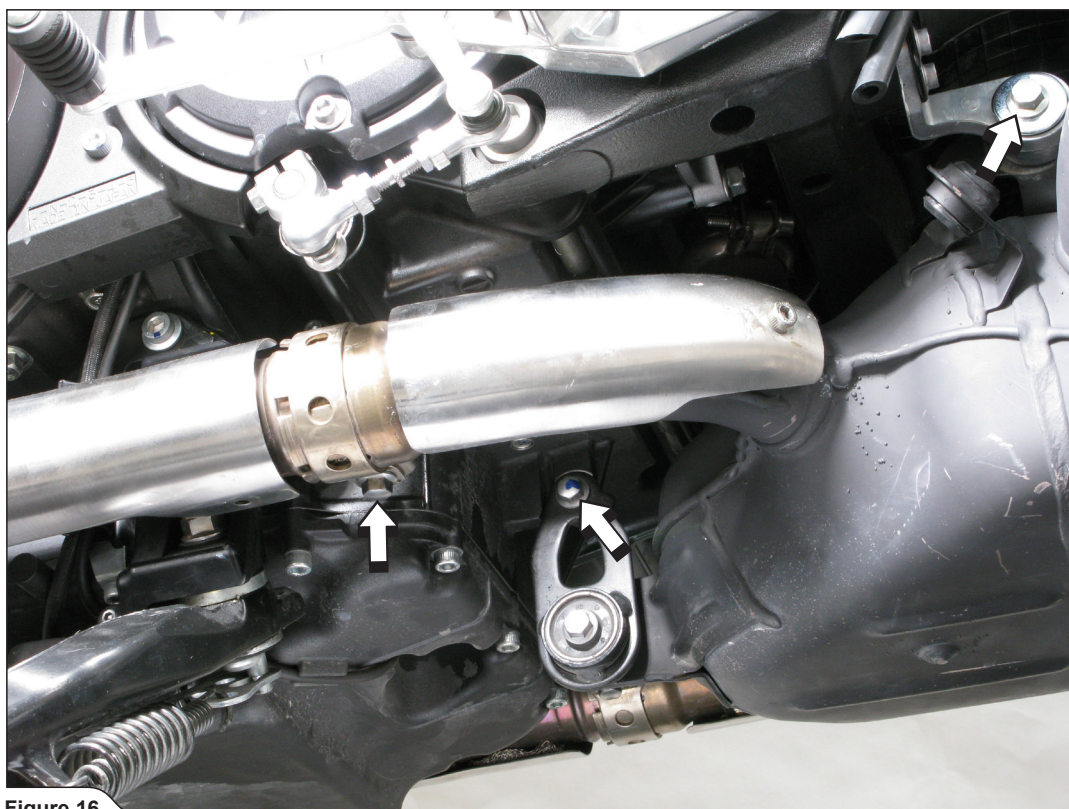

Figure 16
14. For OPEN SLIP-ON only: untighten the metal clamp at the catalytic converter box - header tube joint and unscrew the marked bolts from chassis hanging brackets of the catalytic converter box (Figure 16).